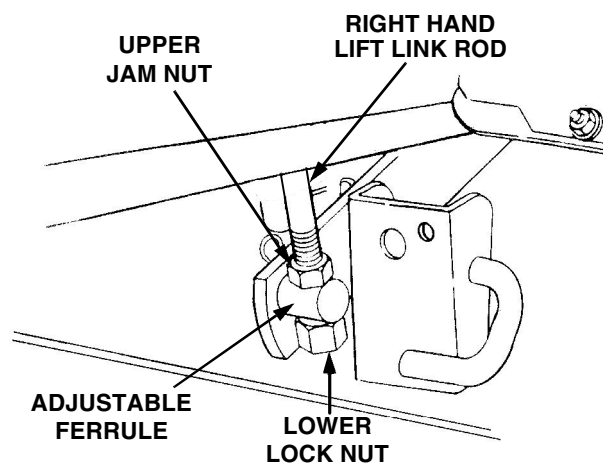

Figure 5-7
6. Side-to-side leveling is obtained utilizing the adjustment ferrule and right hand lift link rod (Refer to Figure 5-7).
7. Loosen the upper jam nut on the lift link rod and turn away from the adjustment ferrule. Turn the lower lock nut upward (tighten) on the threads of the rod to raise the right side of the mower deck. Turn the lock nut down (loosen) on the threads to lower the right side of the mower deck (See Figure 5-7).